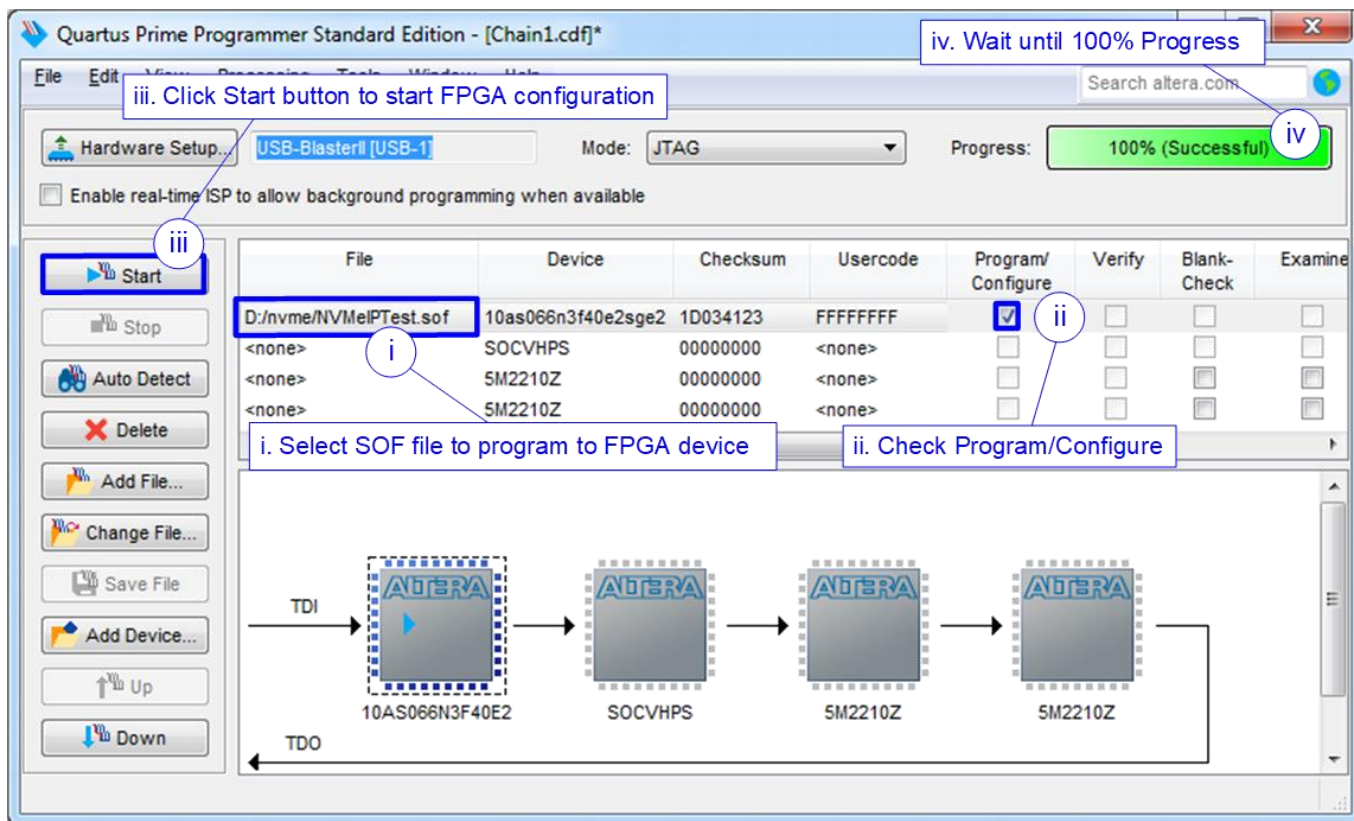

Figure 2-12 Programmed by QuartusII Programmer
- 1) Use QuartusII Programmer to program “NVMeIPTest\_xxx.sof” file, as shown in Figure 2-12.